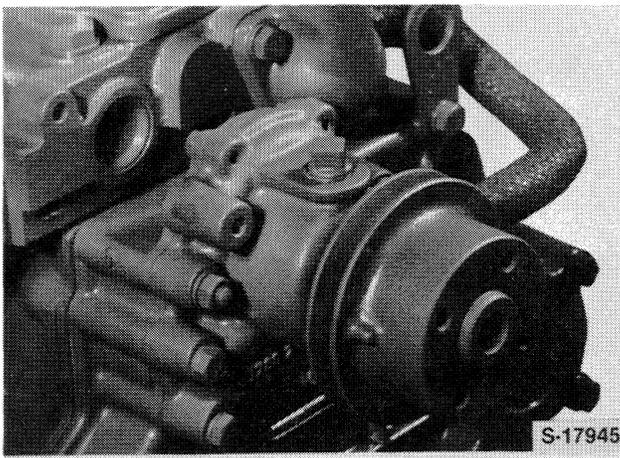

Figure 37
- Remove the water pump assembly, Figure 37.